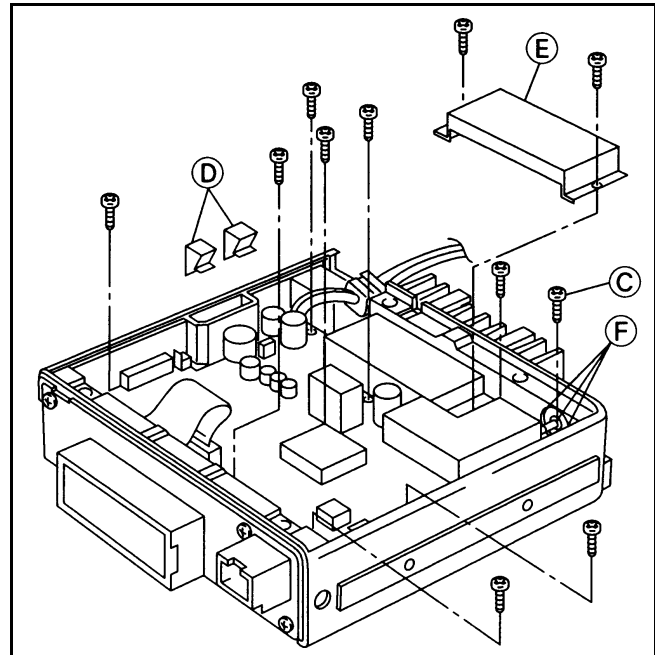
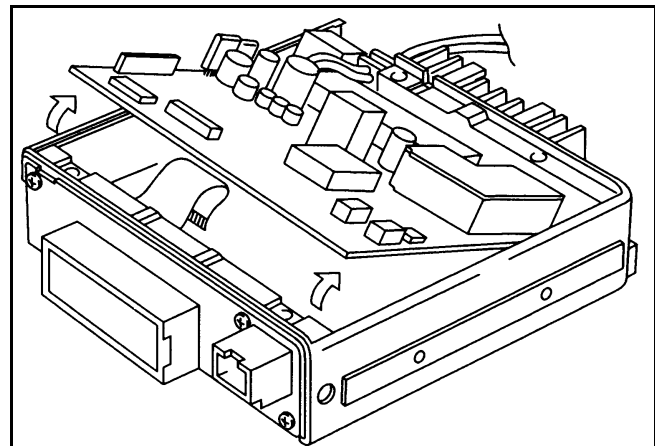

Figure 2-5 PC Board Screws
Figure 2-6 Removing PC Board
3. Remove ten screws (C) and two clips (D) as shown in Figure 2-5.
4. Remove shield (E).
5. Unsolder the antenna connector at three points (F).
6. Lift the front of the PC board assembly as shown in Figure 2-6 and pull it out.
2. Remove the bottom cover by removing the four screws (A) shown in Figure 2-5.